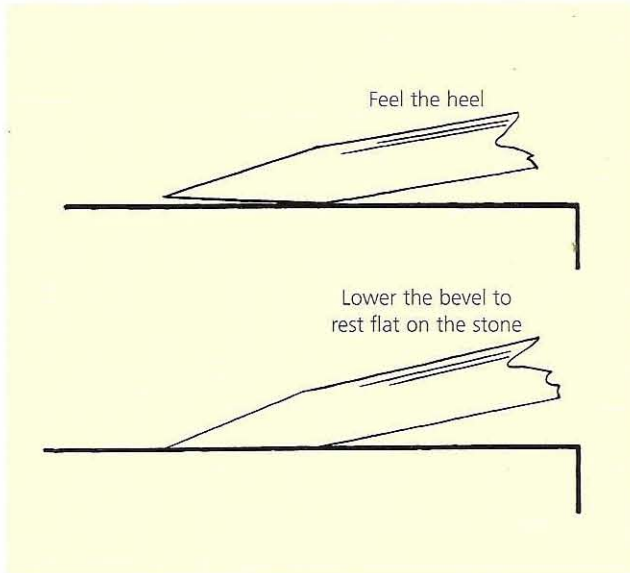

Fig 12.12 How to get a sense of the bevel resting flat on the surface of the benchstone
- ③ Place the heel of the chisel on the near end of the stone. Try to get a sense of the heel resting on the surface (Fig 12.12). Keep your elbows by your sides.
- ④ Raise the handle until the bevel lies flat on the stone, and then a little more to bring in the actual edge. By raising and lowering the handle